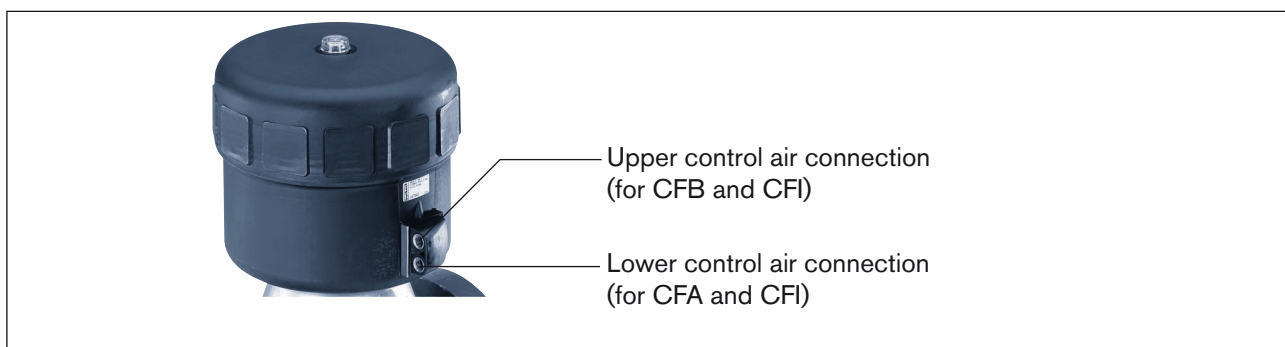

Figure 18: Control air connection
- Pressurize lower control air connection with compressed air (value as indicated on the rating plate) (see picture below *Figure 18:Control air connection*). This is required to detach the diaphragm without damage from the housing.